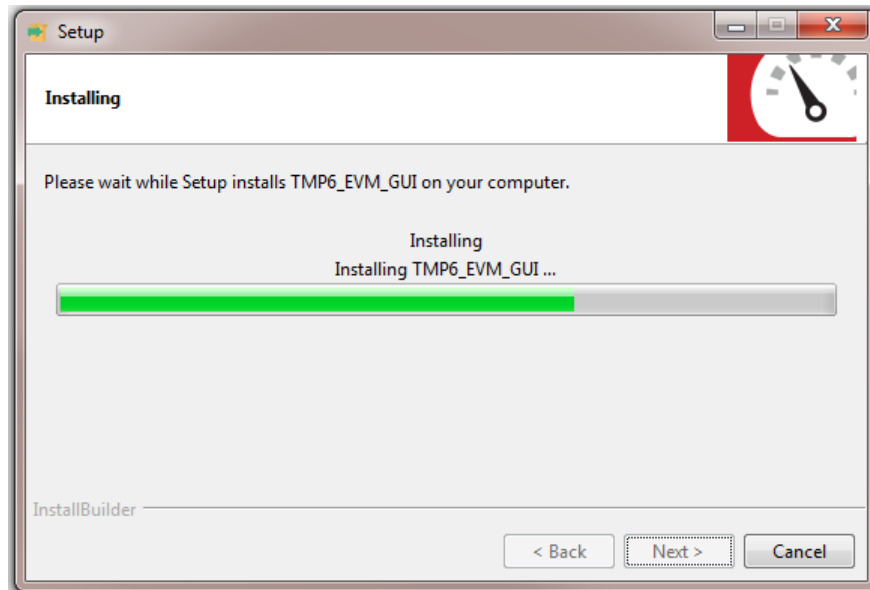

Figure 18. TMP6 EVM GUI Installation
5. The installer will begin as shown in Figure 18.